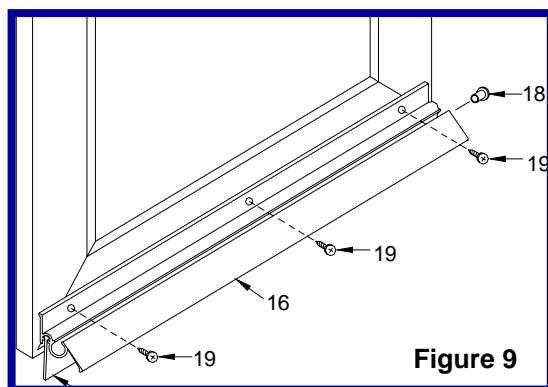

Figure 9
- Cut drip channel (16) 1/2" less than panel width.
- Insert drip channel vinyl (17) into drip channel (16) & trim to size.
- Insert plastic drip channel plug (18) into end of drip channel.
- For additional security, drill three 3/32" holes from drip channel into door. (See Figure 9)
- Secure with three #6x3/8" PH SMS (19).